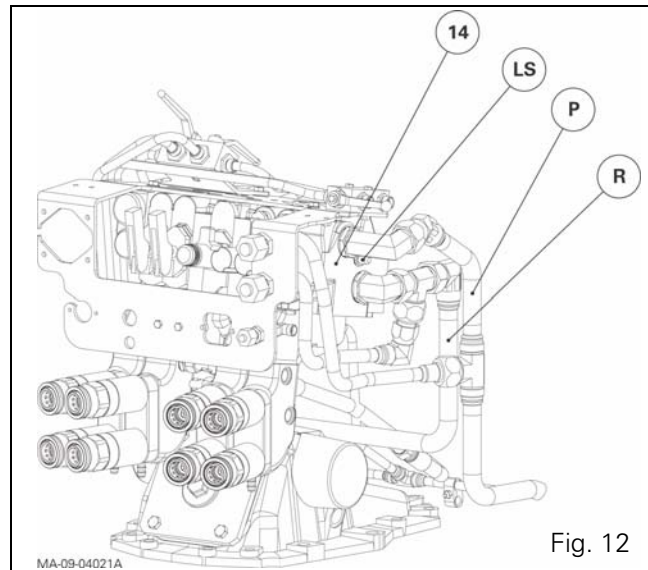

Fig. 12
... on the inlet block (14) (Fig. 12, Fig. 13)